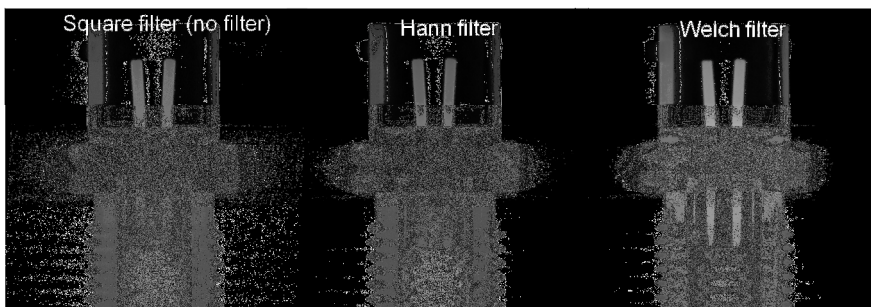

Figure 3.40: Examples of apodisation effects regarding noise level and reconstruction resolution.
He will have the choice between Symmetric Nearest Neighbor (SNN) and Total Variation (TV) (figure 3.40).